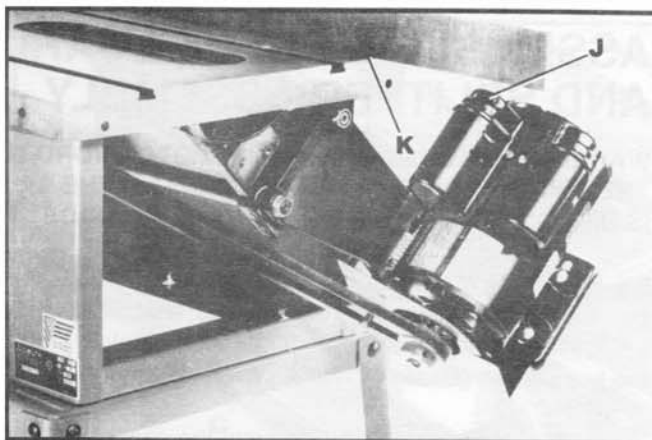

Fig. 16
8. **WARNING: IMMEDIATELY AFTER ASSEMBLING THE BELT, RAISE THE SAW BLADE TO ITS MAXIMUM HEIGHT AND TILT THE SAW BLADE TO 45 DEGREES. CHECK TO SEE IF THE MOTOR END BELL (J) FIG. 16, IS BELOW THE TOP OF THE TABLE SURFACE (K). IF THE MOTOR END BELL (J) IS ABOVE THE TOP OF THE TABLE SURFACE, THE MOTOR MUST BE MOVED TO THE LEFT UNTIL YOU ARE CERTAIN THE END BELL (J) OF THE MOTOR IS BELOW THE TOP OF THE TABLE SURFACE. THEN RE-ALIGN THE MOTOR PULLEY TO THE ARBOR PULLEY.**